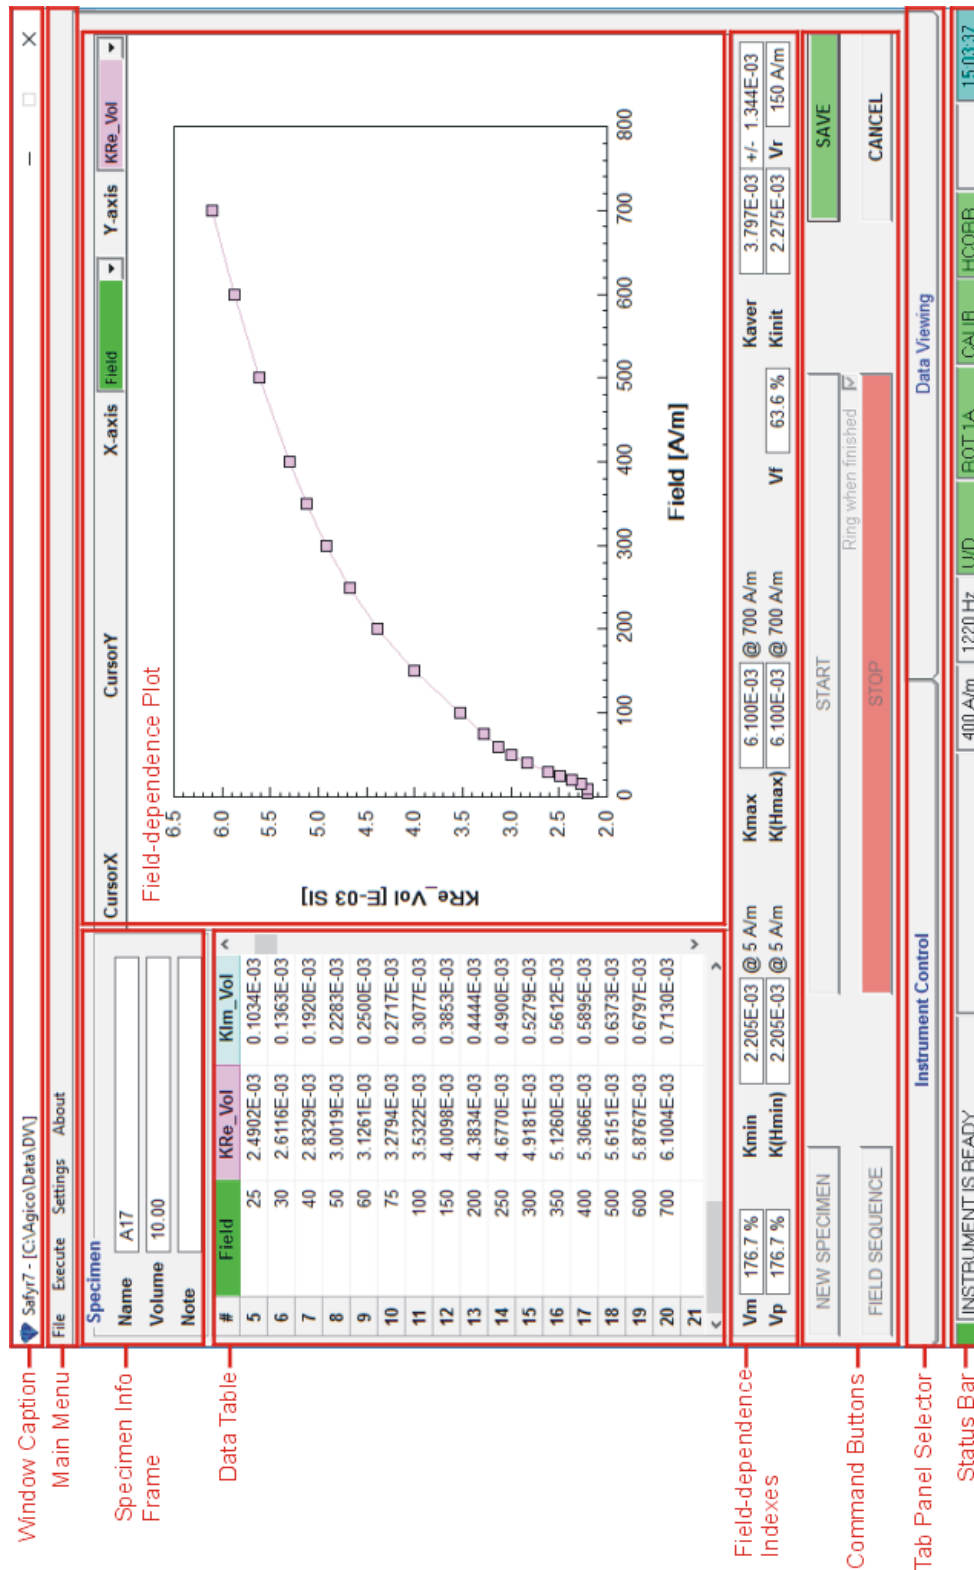

Figure 24: An example of the Safyr7 Main Window controlling the Field Dependence Mode.
The Field Dependence Mode can be set in the **Instrument Settings** window (  or ), see Section 3.1.1.4, Page 14. The **Safyr7 Main Window** for the Field Dependence Mode is shown in Figure 24.
10. The currently measured susceptibility values are appended to the **Data Table** and the **Field-dependence Plot** is continuously re-drawn. In addition, several **Field-dependence Indexes** are calculated and displayed (Figure 24).